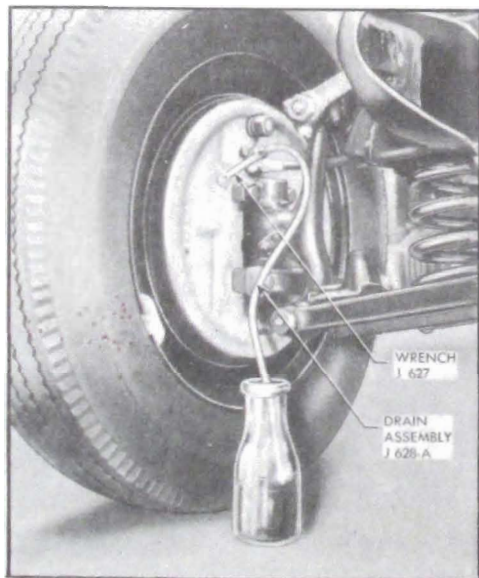

Figure 8-7—Bleeding Wheel Cylinder
2. Remove screw and attach Bleeder Drain Assembly J 628-A to wheel cylinder bleeder valve. Place lower end of drain tube in a clean glass jar. Unscrew bleeder valve three-quarters of a turn, using Bleeder Wrench J 627. See figure 8-7.
1. Remove screws and attach Bleeder Drain Assemblies J 628A to bleeder valves of all four wheel cylinders. Place lower end of drain tubes in clean glass jars. Unscrew bleeder valves three-quarter of a turn, using Bleeder Wrench J 627. See figure 8-7.